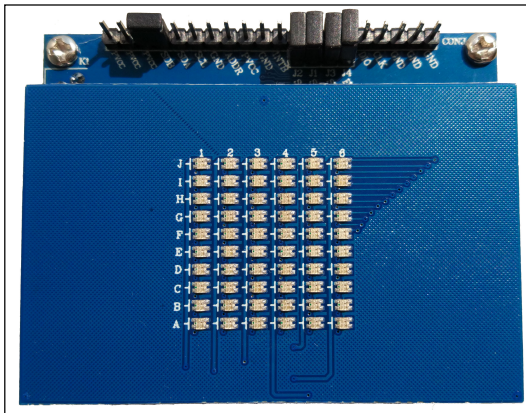

Figure 1: Photo of IS31FL3742 Evaluation Board
*Note 1: The value of these resistors on the evaluation board is 20Ω. For PVCC=5V and red LED application, prefer 51Ω for these resistors as shown in datasheet Figure 1.*